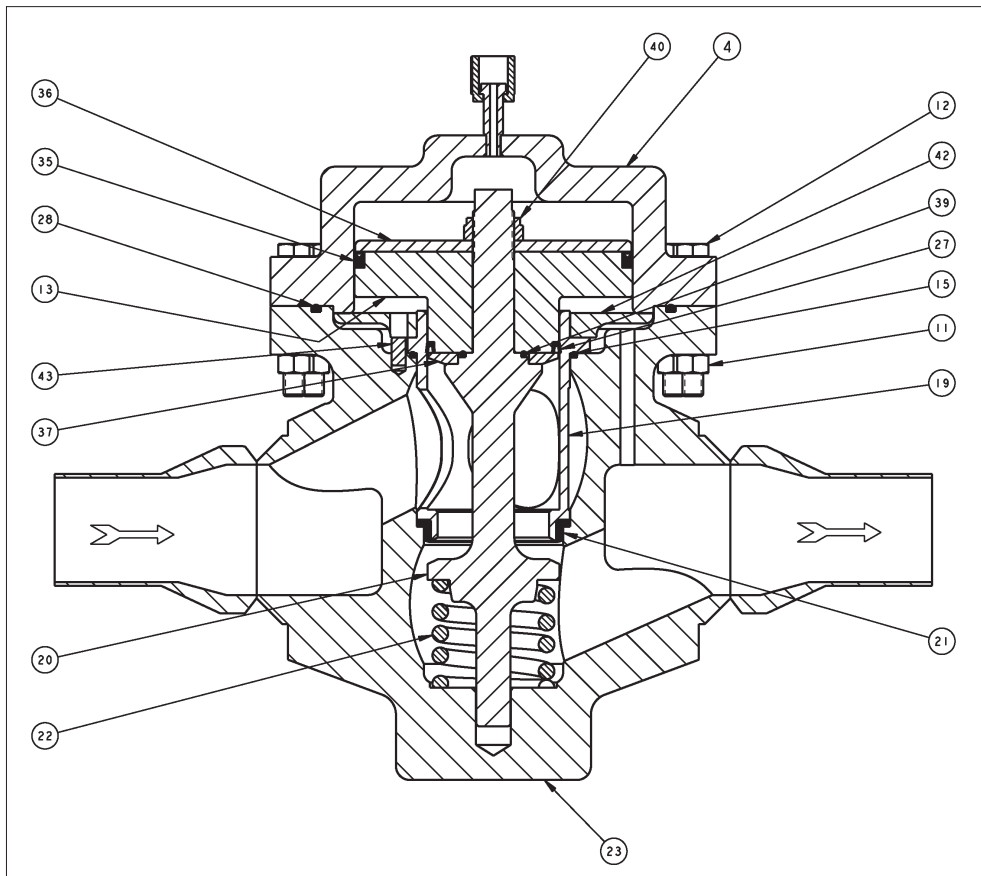

**Figure 1: Dynamic Side Seals**
1. Insert the return spring (22) into the body (23).
2. Install non-threaded end of plug (20) into the bore in the bottom of the body. Fit cage O-ring seal (15) into the body groove.
3. Slide seat (21) over the lower end of the cage. Place cage over plug into the body. Ensure that the cage/seat are not cocked to one side.
4. Position seat retainer (37) on shoulder of plug. Install o-ring (39) on inner shoulder of plug.
5. Properly align all three cage (18) bolt holes as there is only one proper alignment possible. Use hand to apply a downward force to the top of the cage (19) until the cage is lowered sufficiently to engage the cage bolts (18) with washers (17) into the body (23). Engage all cage bolts, then tighten the cage bolts in alternating one-half revolution increments to pull the cage down evenly. Tighten cage bolts (18) to a torque value of 13-15 Ft-lbs (17.5-20.5 Nm).
6. Slide dynamic seal (27) over small end of guide bearing. Ensure u-cup seal (27) is oriented with the center-open-downwards as shown in Figure 1, as the u-cup seal depends upon the P1-Inlet pressure to activate proper sealing action.
7. Reposition the bearing guide (13) over end of plug and carefully slide it into the cage. Place a new u-cup seal (35) with the center-open-upwards into the recess at the top of the guide bearing.
8. Place the seal retainer (36) on top of the guide bearing and engage cap screws (38) tight into the guide bearing.
9. Thread nut (40) on to plug threads and tighten as follows:
4. Position seat retainer (37) on shoulder of plug. **NOTE:** *Flat surface of retainer touches guide bearing.* Install o-ring (39) on inner shoulder of plug.
5. Align hole in clamp ring (42) with dowel pin (43) and install clamp ring on cage (19).
6. Slide new dynamic seal (27) over end of guide bearing. Ensure u-cup seal (27) is oriented with the center-open-downwards as shown in Figure 1, as the u-cup seal depends upon the P1-Inlet pressure to activate proper sealing action.
7. Carefully position guide bearing (13) over plug and into the cage.
8. Place a new u-cup seal (35) with the center-open-upwards into the recess at the top of the guide bearing. Place the seal retainer (36) on top of the guide bearing.
9. Thread nut (40) on to plug threads and tighten. Torque to 120-130 ft. lbs.
10. Place new loading chamber seal (28) in recess in the body flange face. Set loading chamber on top of body. Align matchmarks from step B.3. and insert nuts and bolts (11 & 12). Tighten bolting equally in a star pattern. Torque to 35-40 ft. lbs.
5. Slide new dynamic seal (27) over lower end of guide bearing. Ensure u-cup seal (27) is oriented with the center-open-downwards as shown in Figure 1, as the u-cup seal depends upon the P1-Inlet pressure to activate proper sealing action.
6. Carefully position guide bearing (13) over plug and into the cage.
7. Place a new u-cup seal (35) with the center-open-upwards into the recess at the top of the guide bearing. Place the seal retainer (36) on top of the guide bearing and engage threads of cap screw (40) tight into the guide bearing. Torque to 180 - 200 ft. lbs.
9. Place new loading chamber seal (28) in recess in the body flange face. Place new o-ring (41) on top edge of cage. Set loading chamber on top of body. Align matchmarks from step B.3. and insert cap nuts and bolts (11 & 12). Tighten bolting equally in a star pattern. Torque to 35-40 ft. lbs.